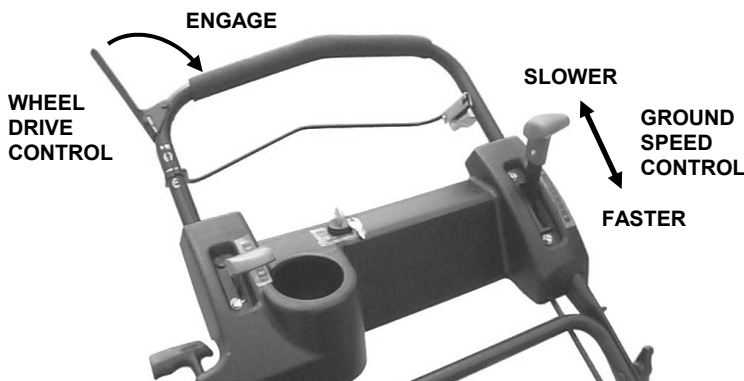

FIGURE 2.6
2. Move ground speed control to the desired speed position. See Figure 2.6.
3. Move wheel drive control against handle to engage wheel drive and propel mower forward. Forward speed can be adjusted while the mower is moving by changing position of the ground speed control. See Figure 2.6.